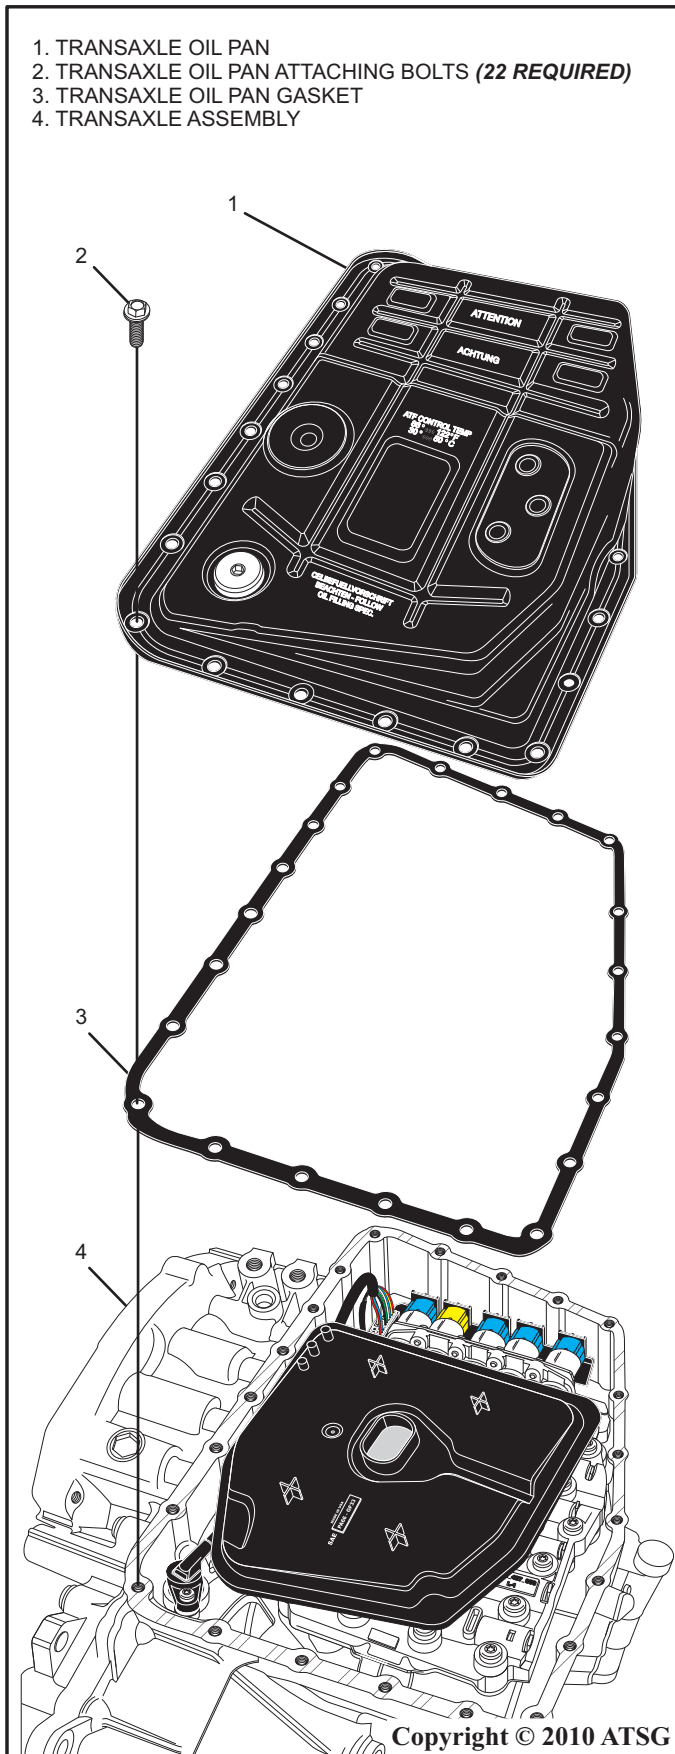

Figure 5
7. Using a 5/16 socket, and suitable air wrench, remove the transaxle oil pan attaching bolts (22 required) as shown in figure 5.
8. Remove the transaxle oil pan by lifting straight up as shown in figure 5.
9. Remove the transaxle oil pan gasket and discard as shown in figure 5.